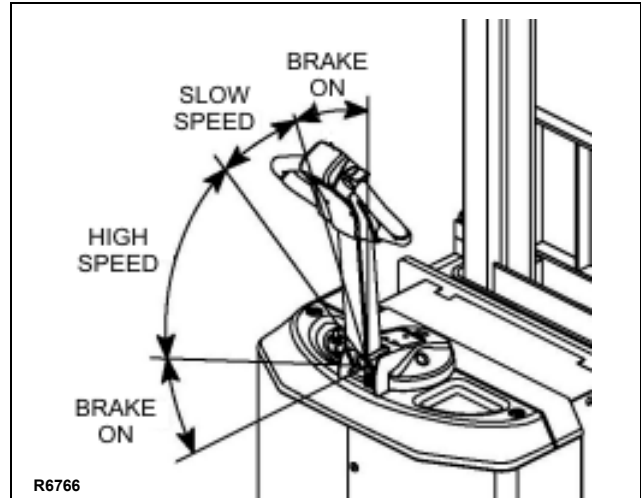

Figure 2-5. Brake Actuation
The brake is fully applied by lowering or raising the steering arm. (See Figure 2-5) All traction control power is shut off when the brake is engaged. When the steering arm is in the upright position, the brake acts as a parking brake. Deadman braking occurs when the handle is released and spring action raises steering arm to the upright position.
2. Lower the steering arm to a comfortable position above horizontal to disengage the brake and to energize the electrical circuits. If the truck is not moved, the electrical circuits will time out and will deenergize. See Figure 2-5.
4. To slow down or stop, release the speed control and lower or raise the steering arm to the horizontal or vertical position. See Figure 2-5. In those positions, the brake engages, slowing or stopping the truck.